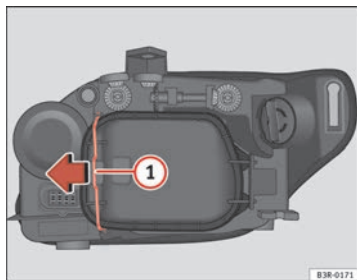

Fig. 210 Side light
Although it is not necessary, previously remove the rigid cover ⇒ page 269, fig. 210 for easier day light bulb changes. ■
- Move the brace ⇒ fig. 210 ① in the direction of the arrow and remove the rigid cover, separating the brace side and then removing the two tabs from the other end of the cover.